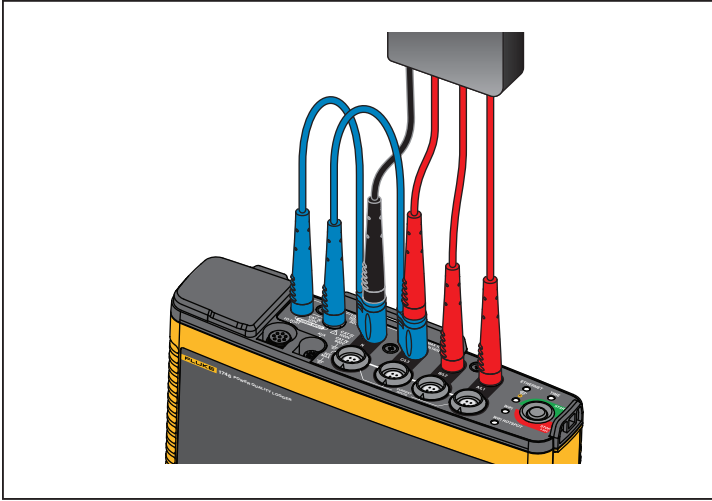

Figure 7B: Measurement with neutral voltage and supplying instrument power.
3. Connect the short test leads (see Figure 7B & 7C) with the power supply inputs. Make sure to use the non-stackable plugs. The test leads are rated for measurement/overvoltage CAT III 1000 V and CAT IV 600 V.
- To supply power to the Logger from installations with neutral voltage (see Figure 7B):